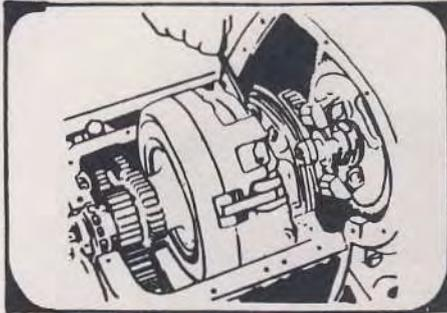
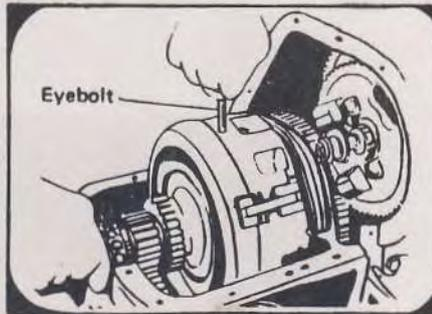

Fig. 25
Fig. 26
(1) It is difficult to explain how to adjust the reduction and reversing gear system with clutch. The manual of each engine should be followed in this respect.
(2) The dismantling procedure for reversing gear is as follows:
- (c) Take off reversing gear cover bolts and also take off bracket for reversing gear handle bearing toward stern. Pull up reversing gear cover sliding toward stern, then the cover is dismantled. Unbend metal washer for bolts which faster reversing gear with crank gear flange, as shown in Fig. 25 then take off bolts. Then put bolts into the holes provided on the circumference of reversing gear housing as shown in Fig. 26. Holding these bolts, side the reversing gear astern then lift the gear slowly. You must be careful not to break the ring around the flange which connects with crankshaft.